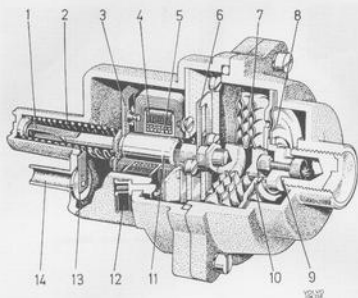

Fig. 2-166. Pressure sensor.
The pressure sensor, Fig. 2-166, is built into a light-alloy housing.
When the engine is switched off, atmospheric pressure exists on both sides of the diaphragm (8, Fig. 2-166) and the movable armature (11), which is suspended friction-free in both leaf springs (3 and 6) is pressed against the full-load stop (9) by the spring (2). Moreover, both the deflated diaphragm bellows (7) are pressed together, since they are influenced by atmospheric pressure. This permits the armature (11) to move further to the right. In this position with the armature at extreme right, the pressure sensor informs the control unit that maximum possible fuel can now be injected.